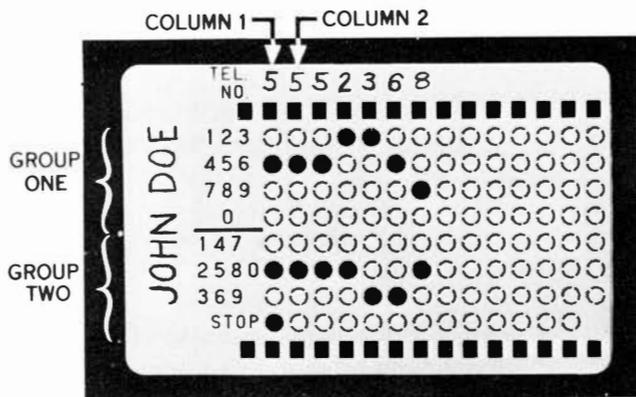

Fig. 5 - Card Coded for 7-Digit Telephone Number
- (b) A heavy black line separates the two groups of numbers (Fig. 5 and 6).
- (1) Write name and telephone number in spaces provided as shown in Fig. 5 and 6.
- (3) In Fig. 5 the first digit of the telephone number is 5. In column 1, locate digit "5" in the first group of numbers and punch out perforation with a pencil or ball-point pen. Starting in the same column, locate digit "5" in the second group of numbers and again punch out perforation.